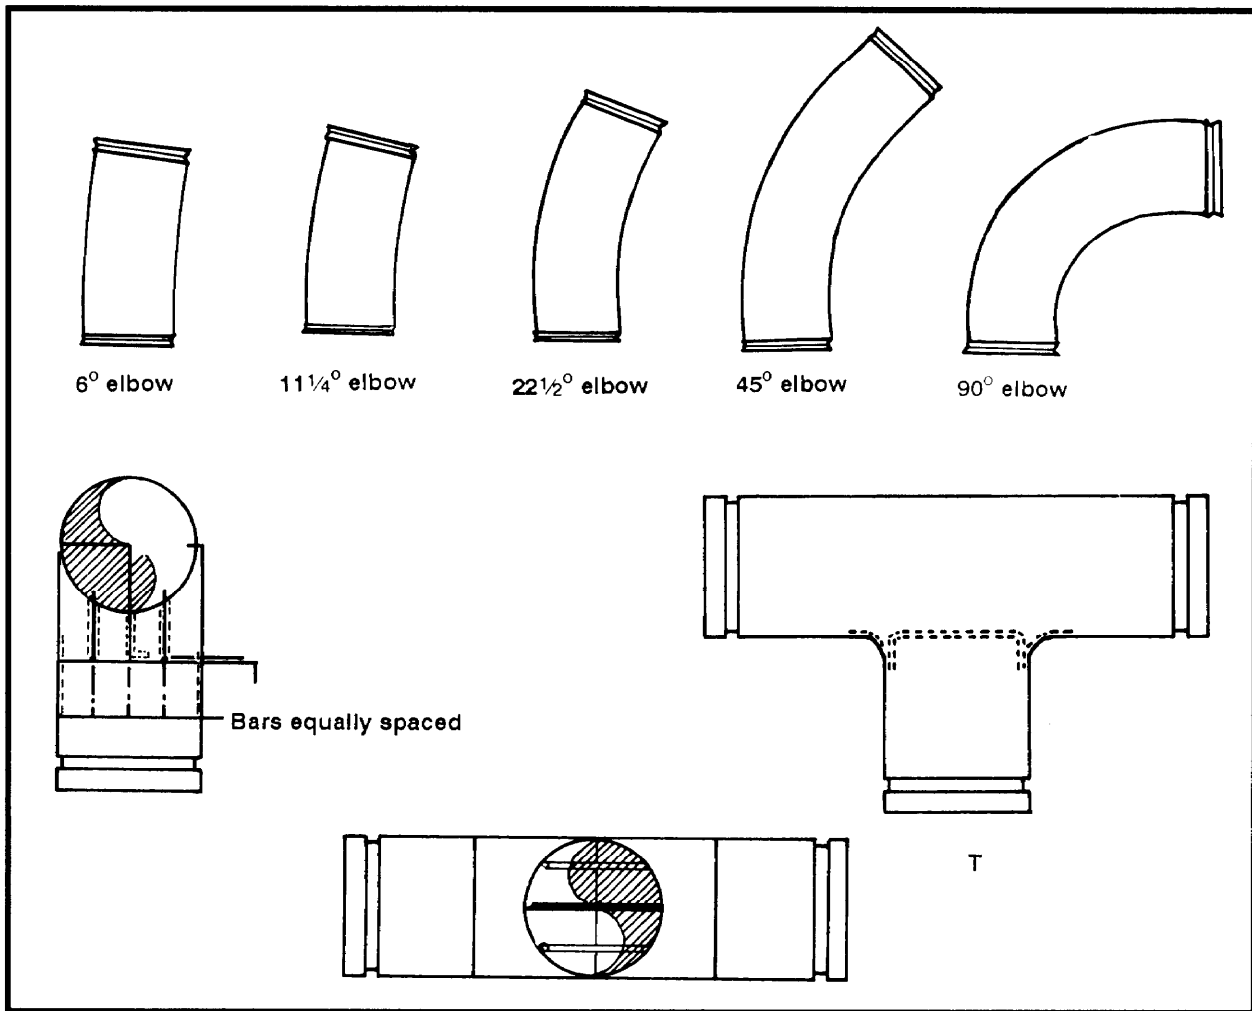

Figure 2-18. Pipe fittings for aluminum pipe
(1) Pipe Fittings. Standard, groove-type pipe fittings include elbows and Ts. Figure 2-18 (page 2-14) shows some of these fittings.